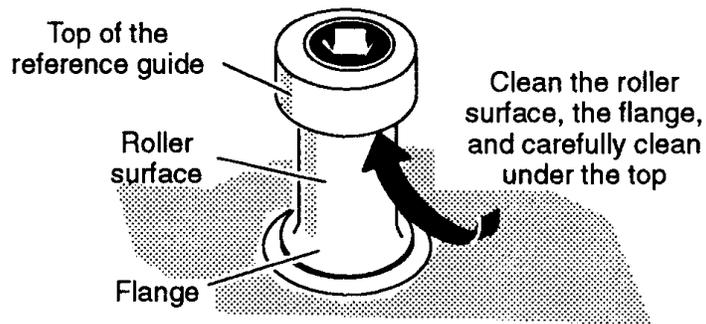

Figure 6-3 Cleaning the Tape Guides
2. Clean the surface of all rollers and guides as shown in Figure 6-3. Clean the areas between the roller surfaces and their flanges. Be especially alert to deposits under the caps on the reference guides and make sure these areas are clean.